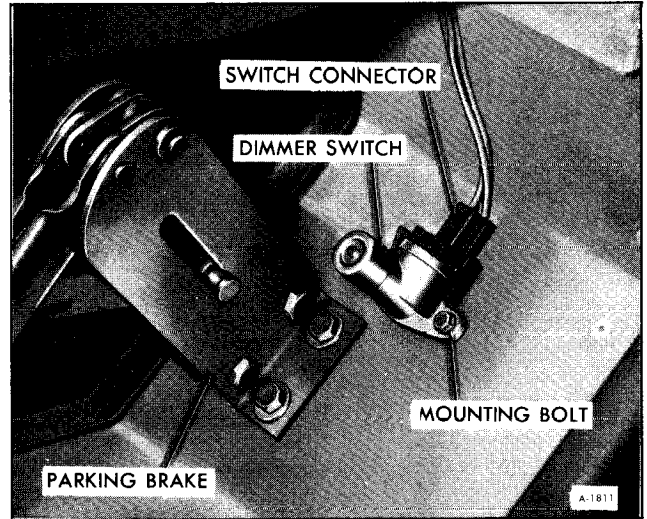

Figure 33-Dimmer Switch
The foot-operated dimmer switch (figure 33) is used to select headlight high or low beam. The switch is mounted on the left hand side of the drivers area floorboard and is operative when the headlights are illuminated. See Figure 32 for diagnosis details.
1. Fold back the carpeting or floor mat in the area of the switch (See figure 33).
4. Position the switch on the floor panel or toe-board area and attach with (2) screws. Re-position floor mat.